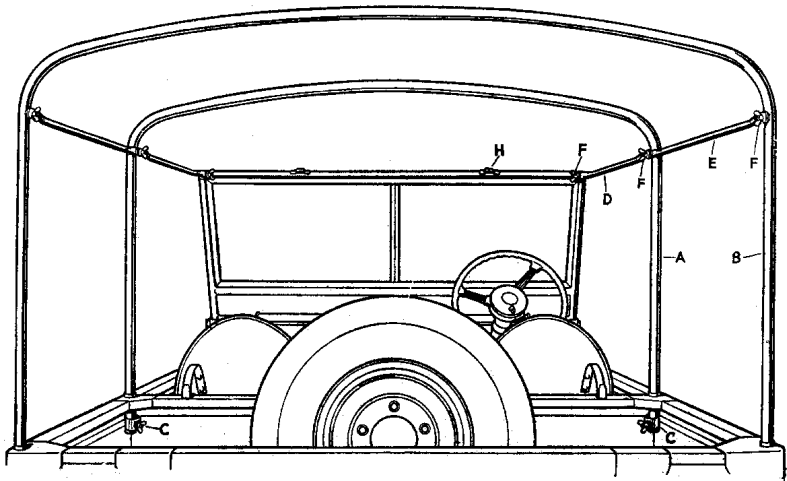

Fig. 39. Hood sticks
FITTING THE FULL-LENGTH HOOD. Select the two U-shaped tubular hood sticks. Slacken off the thumbscrews (C) below the sockets inside the rear corners of the body, insert the rear hood-stick (B) in the sockets and tighten the screws. Fit the front hood-stick (A) in a similar manner. (Fig. 39).
Next select the four thin cranked tubular stays which are fitted between the windscreen and hood-sticks. The two shorter stays (D) with thumbscrews at one end should be fitted between the windscreen and front hood-stick so that the cranks throw the stays outwards; at each end the slot slips down under the thumbscrew on the bracket. Fit the longer stays (E) in a similar way between the front and rear hood-sticks and tighten the four thumbscrews (F). (Fig. 39).
Slacken off the thumbscrews below the sockets inside the front corners of the body, insert the large U-shaped hood-stick (A) in the sockets and tighten the screws. (Fig. 39). Then fit the two stays (D) between the windscreen and the hood-stick, securing them at each end by means of the thumbscrews (F).